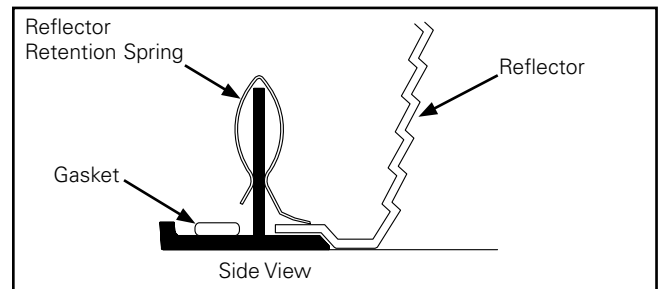
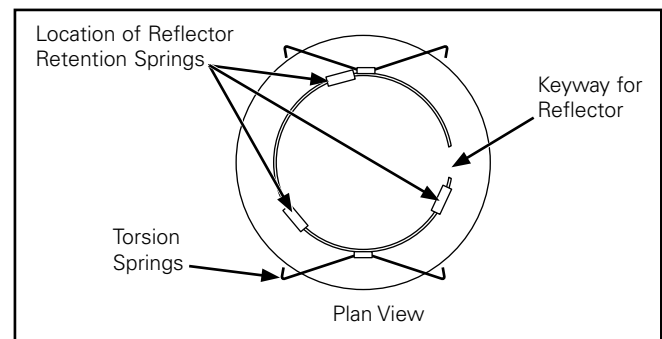

Figure 2.
Figure 3.
- White or Raw Die cast flange may be removed for field painting. To remove pull off three metal spring clips that retain reflector from behind flange. (Figure 2.) Reflector will lift off die cast flange ring. Die cast can now be painted. To replace reflector, align finger on reflector's lower lip into notch on die cast. Seat reflector and replace push on metal spring clips. See diagram for proper location of springs. (Figure 3.)